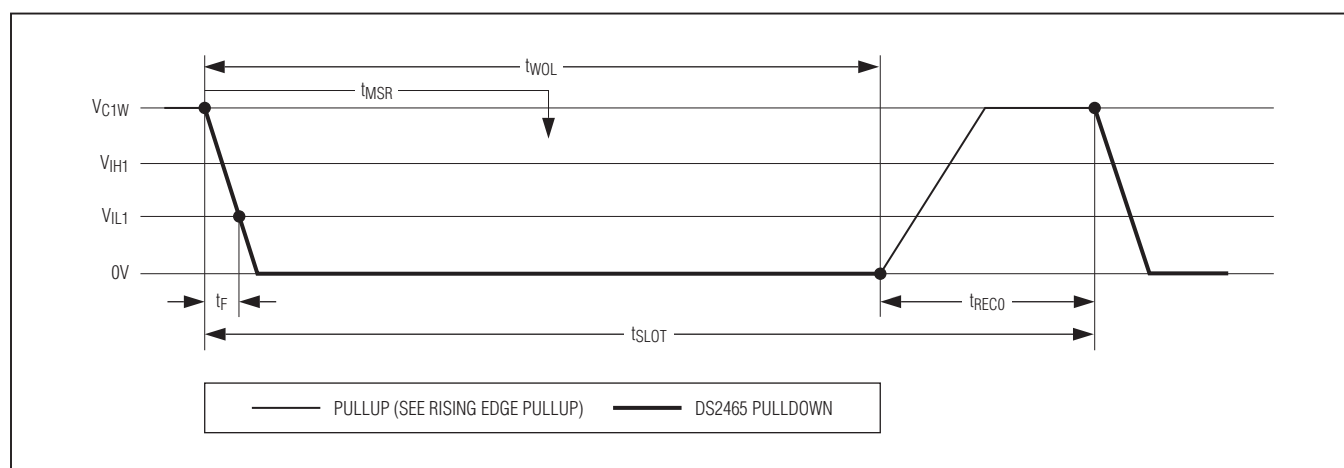
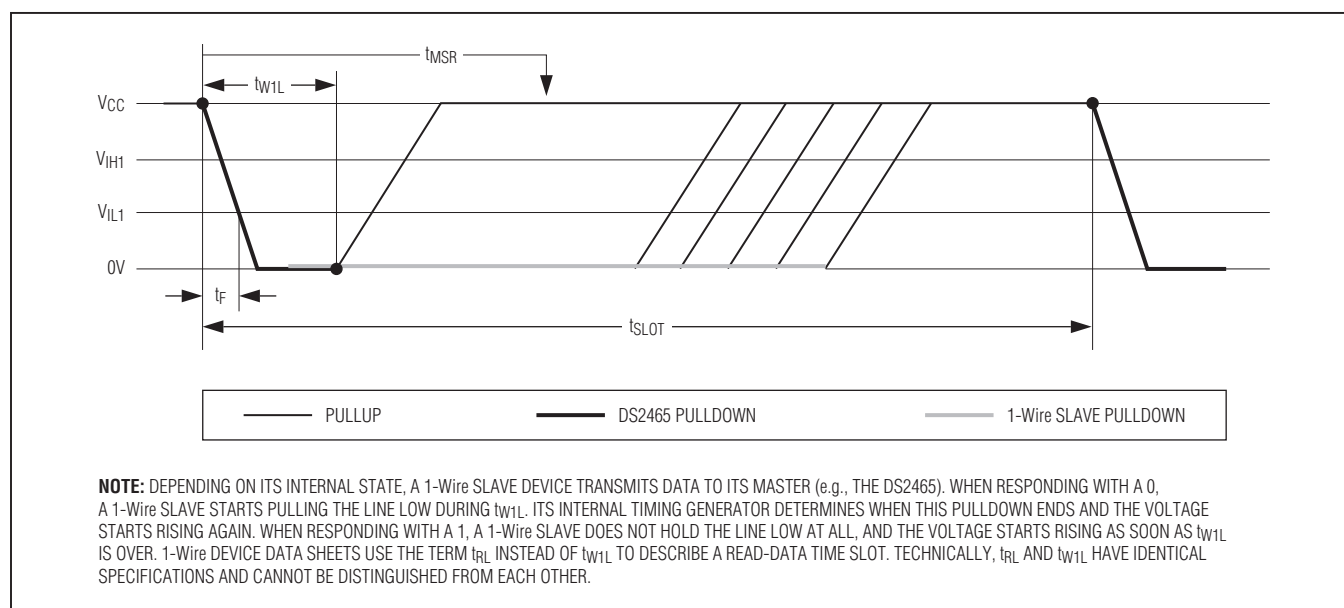

Figure 6. Write-Zero Time Slot
Figure 7. Write-One and Read-Data Time Slot
Bit 7: Bit value (V). This bit specifies the type of time slot to be generated. If V = 0, a write-zero time slot (Figure 6) is generated. If V = 1, a write-one time slot (Figure 7) is generated, which also functions as a read-data time slot.